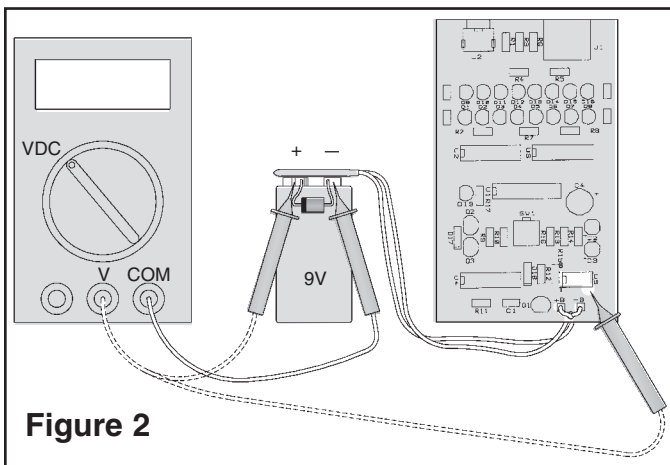

Figure 2
- 2. Set the voltmeter to read 20VDC and connect the COM lead to the negative (-) side of the battery and the V lead to the positive (+) side of the battery as shown in Figure 2. The meter should indicate 9-10VDC. Push switch SW1.
Push the switch SW1 again and short the battery by the zener diode for 1-2 seconds (the side with the band should be touching the "+" terminal of the battery, see Figure 2). LED D19 (Lo Batt.) should be lit. Remove the zener diode and the LED should turn off. If not: